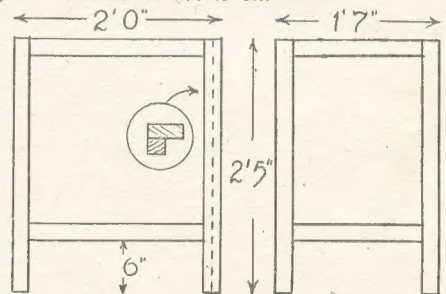

Fig. 1—Frames forming the legs
To make up the shallow tray at the rear, prepare some strips of  $\frac{3}{4}$ in. by 2in. wood, and nail and glue these to the back and ends of piece (A). Another strip, this time,  $1\frac{1}{2}$ in. wide, is fixed along the front of (A) to finish the tray part. These details are shown at (C), Fig. 1.
Deal can be used for its construction, and the wood should be a fair thickness, to ensure a firm and stable product. It should not be less than 1in. thick, which means  $\frac{3}{4}$ in. when planed. At Fig. 1 a view is given of two of the three frames necessary to support the table top. The left side one is the back frame.